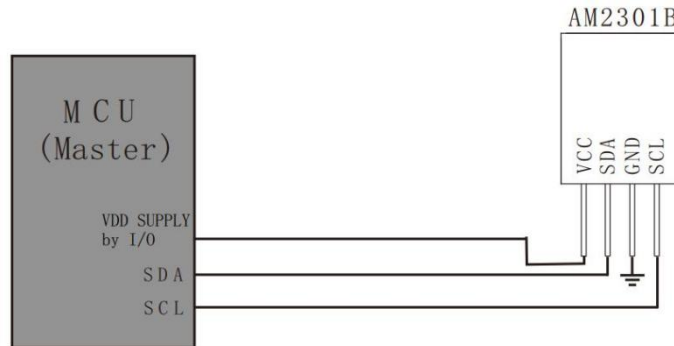

Figure 8. Typical application circuit
The SDA pin is used for data input and output of the sensor. When sending a command to the sensor, SDA is valid on the rising edge of the serial clock (SCL), and when SCL is high, SDA must remain stable. After the falling edge of SCL, the SDA value can be changed. To ensure communication safety, the effective time of SDA should be extended by TSU and THO before the rising edge and after the falling edge of SCL refer to Figure 8. When reading data from the sensor, SDA is valid (TV) after SCL goes low, and is maintained until the next falling edge of SCL.